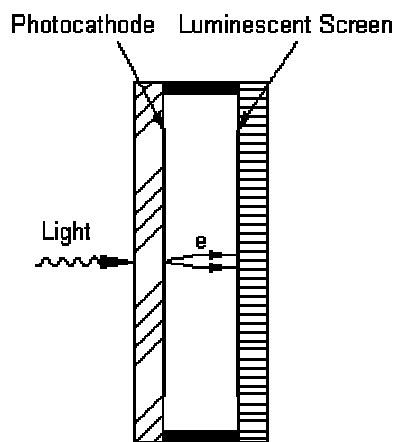

Fig. 2: Proximity focus image intensifier diode
- by placing the screen in close proximity to the photocathode (proximity diode), see Fig. 2, or,